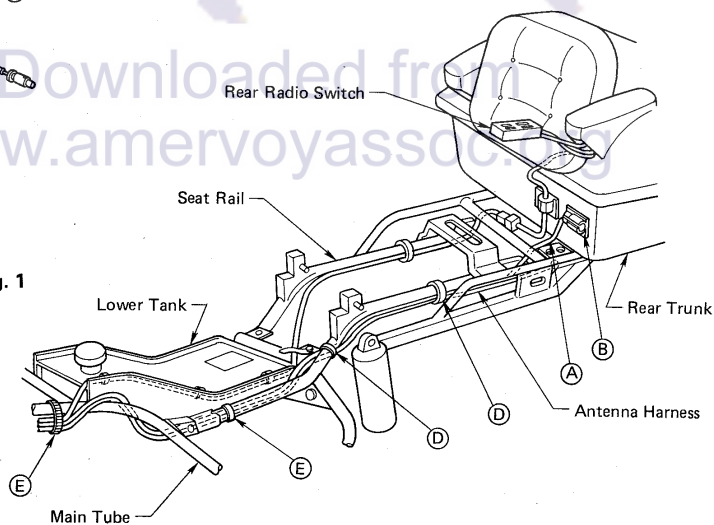

Fig. 2
- Attach the Connector Holder (B) to the Rear Trunk as shown in Fig. 2. Place the Y-Shaped Cable (A) as shown, and fix its DIN Connector (male) to the Connector Holder (B) (fasten the cable at 4 points using the straps (D) and (E)).